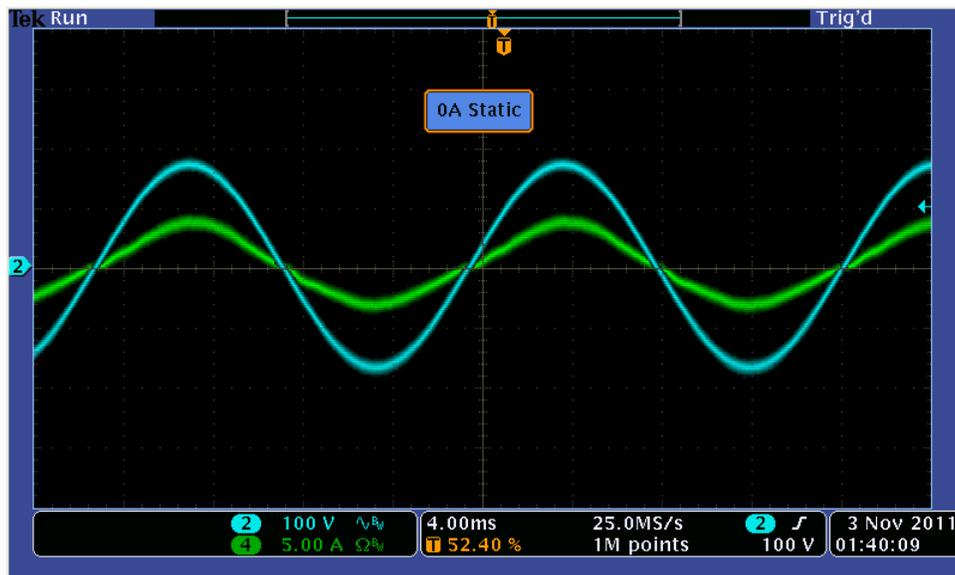

Figure 10. Grid-Tie Test 2, Ch2: Grid Voltage, Ch4: Solar Inverter Output Current, MPPT Panel Power 330 W
- Therefore, the Inverter, when turned on, will deliver about 330 W load power at 120 V/60 Hz, and the AC source output power will drop from initial 480 W to about 150 W. The waveforms in Figure 10 show the grid voltage and the inverter output current under this condition.